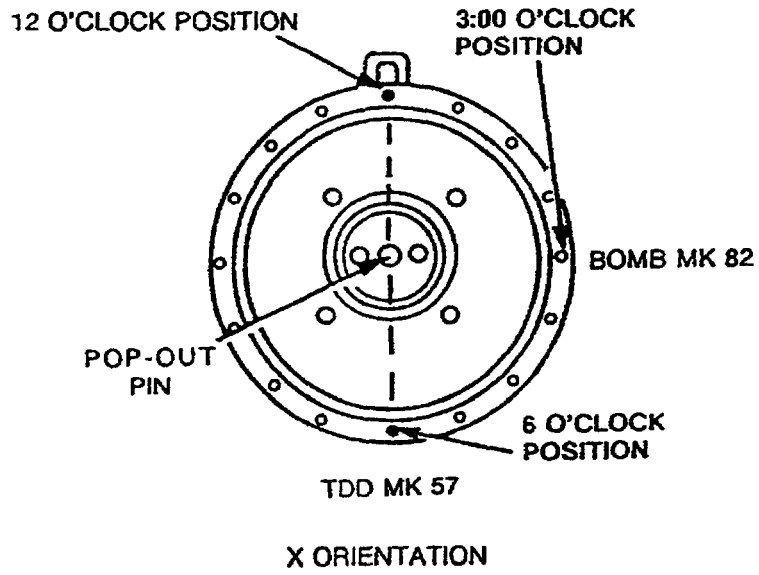

Figure 4-10C. Pop-Out Pin Orientation
- b. Ensure pop-out pin has been oriented for X fin orientation (Figure 4-10C).